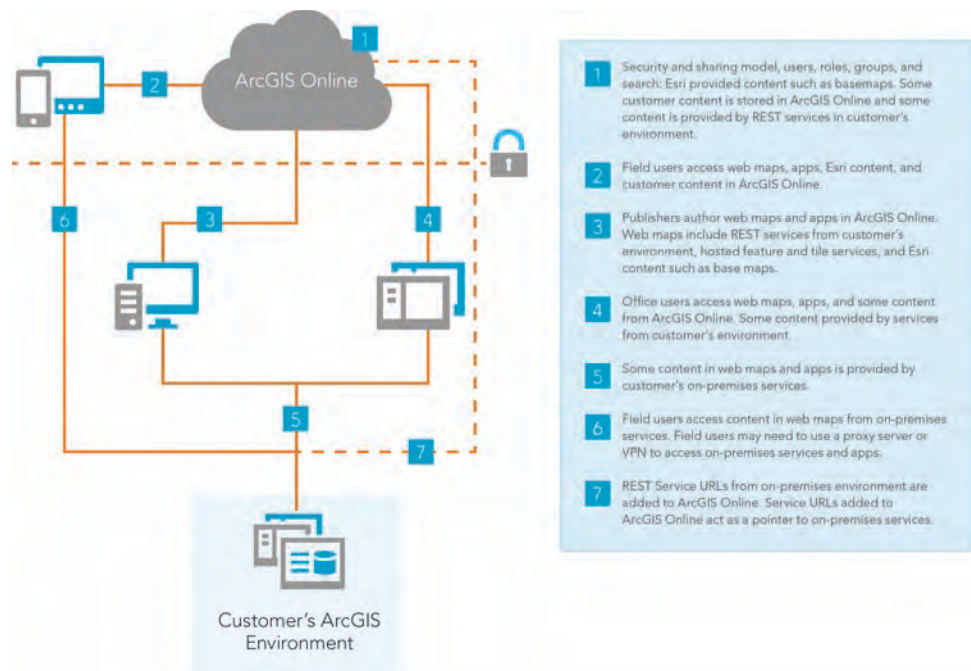

Figure 13: Hybrid ArcGIS Online Deployment Architecture
Therefore, the only difference between the on-premises deployment and the hybrid deployment of ArcGIS Online is that publishers can publish data in ArcGIS Online in the form of hosted feature or tile services. Some data resides in ArcGIS Online and some is provided by REST services in the on-premises environment. (items 1–4 in figure 13).